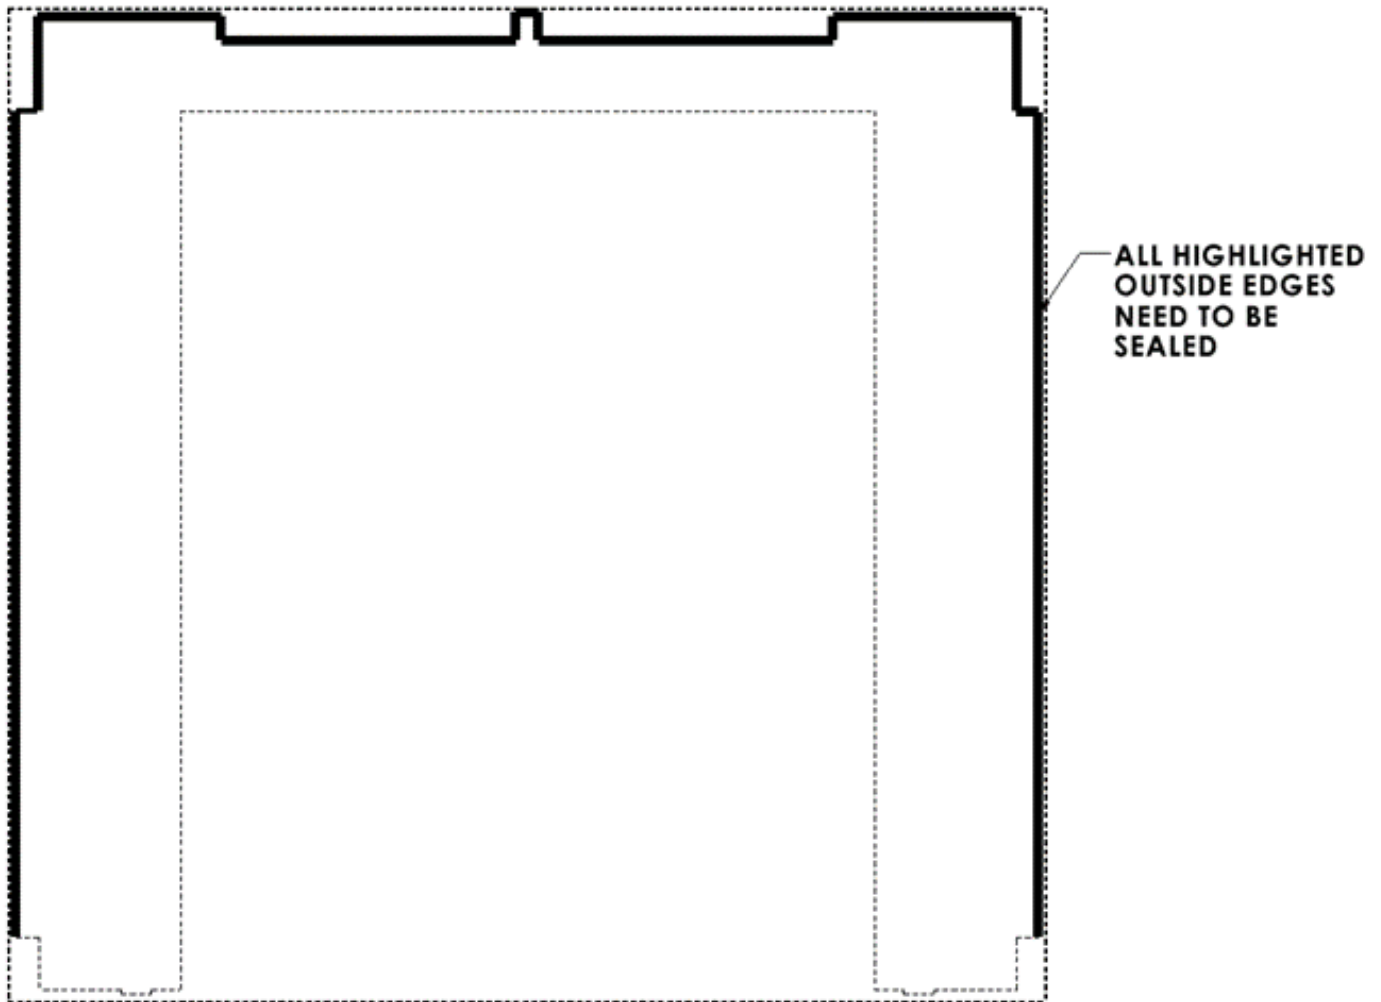

FIGURE 18
- 10. SEAL PERIMETER:** Apply sealant to all outer edges (Figure 18). Vulkem® 116 is our recommended sealant for best results.